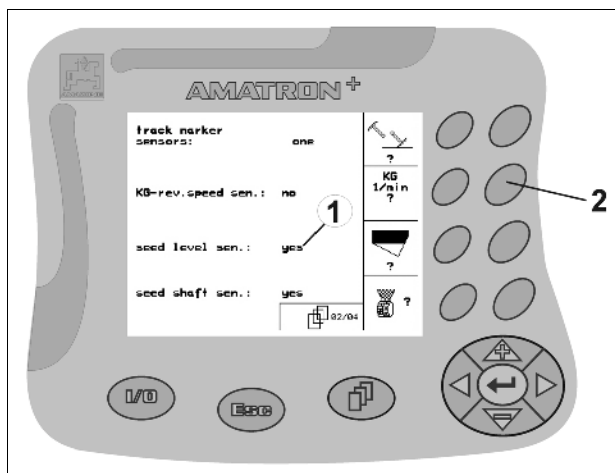

Fig. 16
- Press function key (Fig. 16/2) once
→ Function **On** (Fig. 16/1).